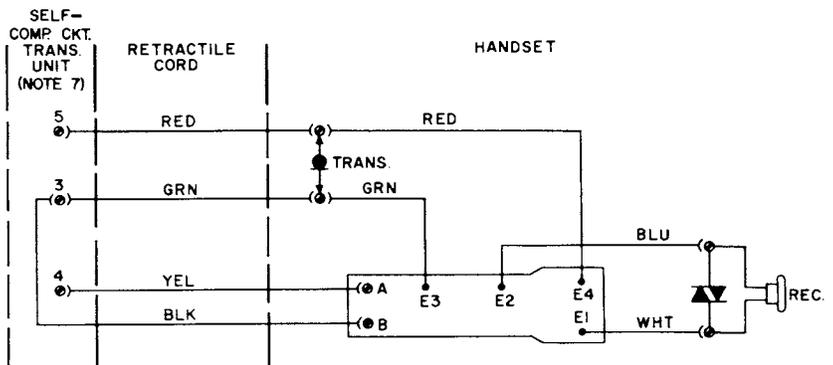

Figure 4. Schematic and Wiring Diagram, Type 820 SOUND-BOOSTER Handset.
power is supplied to the amplifier by two conductors (red and green) connected to terminal screws in the transmitter cavity. The yellow and black conductors of the handset cord are connected to terminal screws (Figure 3) on the printed wiring card and provide the input to the amplifier. A standard four-conductor cord is used to connect the handset to the telephone. The amplifier (circuit shown in Figure 4) is located, electrically, between transmission unit terminals 3 and 4, and the receiver capsule.
- (1) Gain access to the transmission unit of the particular telephone to which the Type 820 handset is to be connected.
- (2) Loosen the terminal screws to which the four retractile cord leads are connected and remove the standard retractile cord handset.
- (3) Connect the Type 820 handset retractile cord leads to the following terminals on the transmission unit: Green-(3), Black-(3), Yellow-(4), and Red-(5). These connections are shown on the wiring diagram of Figure 4.